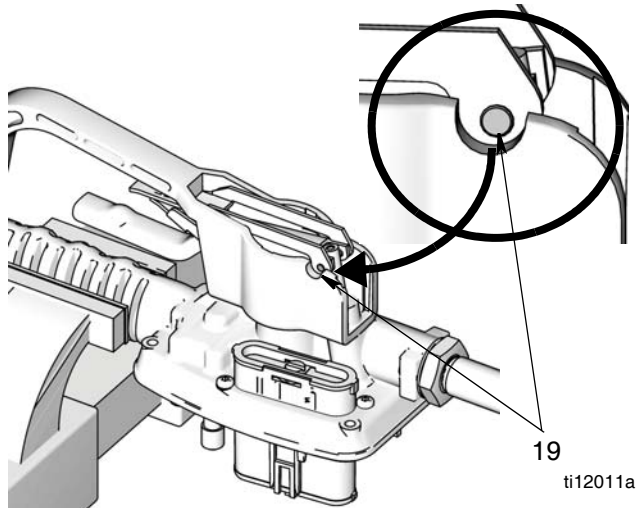
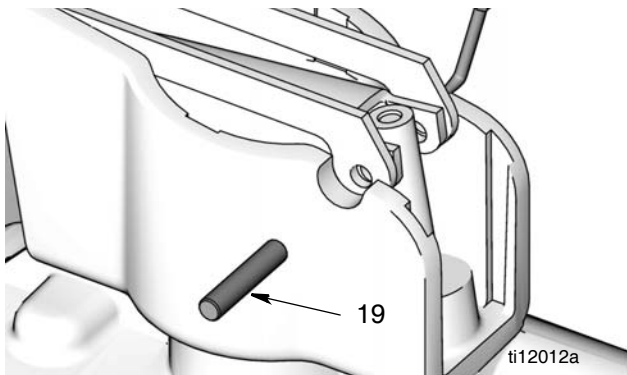

FIG. 38
FIG. 39
10. Place meter in a vise as shown in FIG. 38. Use new trip rod from your kit (2) or a non-metal rod or dowel to push trip rod through meter housing (FIG. 38 and FIG. 39) far enough to access pin (19) holding together trip rod and trigger.
11. Use a pick to push pin (19) out (FIG. 39).